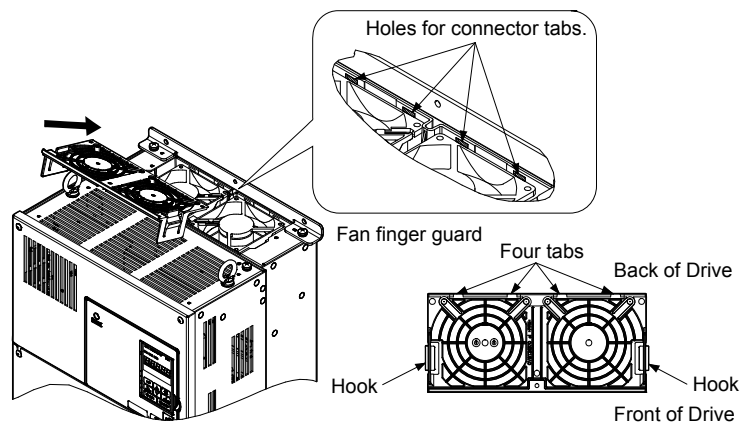

Figure 7.19 Reattach the Fan Finger Guard: 4A0088 and 4A0103
3. Angle the fan finger guard as shown in Figure 7.19 and insert the connector tabs into the corresponding holes on the drive.